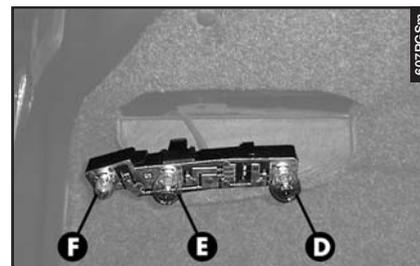

fig. 58
– Remove and replace the bulb concerned (spherical with bayonet coupling) pushing gently and turning counter-clockwise (**fig. 58**):